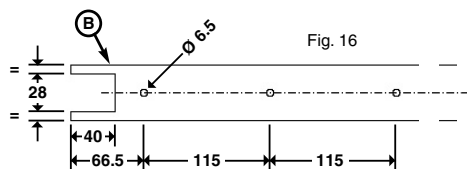

Fig. 16
- Drill the upper crosspiece **B** of the leaf following the indications along the entire length of the crosspiece (Fig 16).